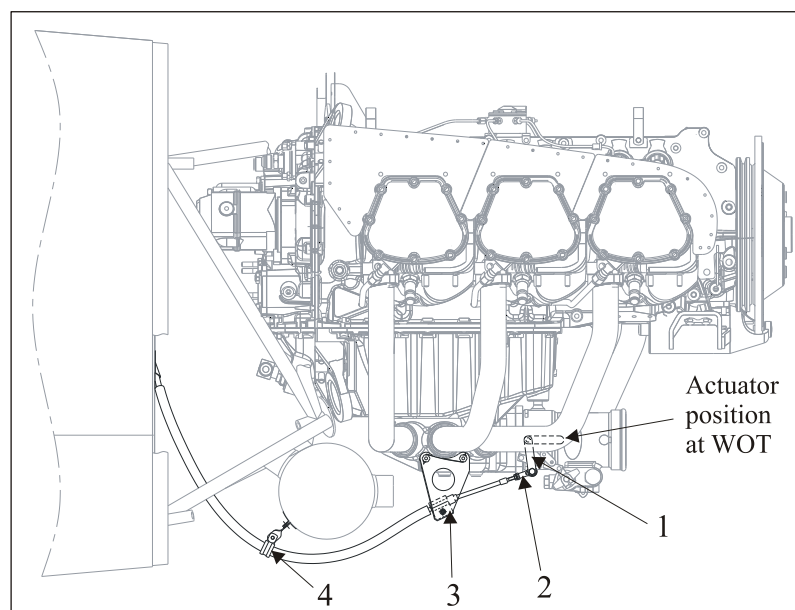

Figure 4 *Throttle Control Cable Rigging*
- 3 If not, loosen the attachment bolt of the front clamp block (3, Figure 4) and adjust the vernier control cable position in the clamp block.